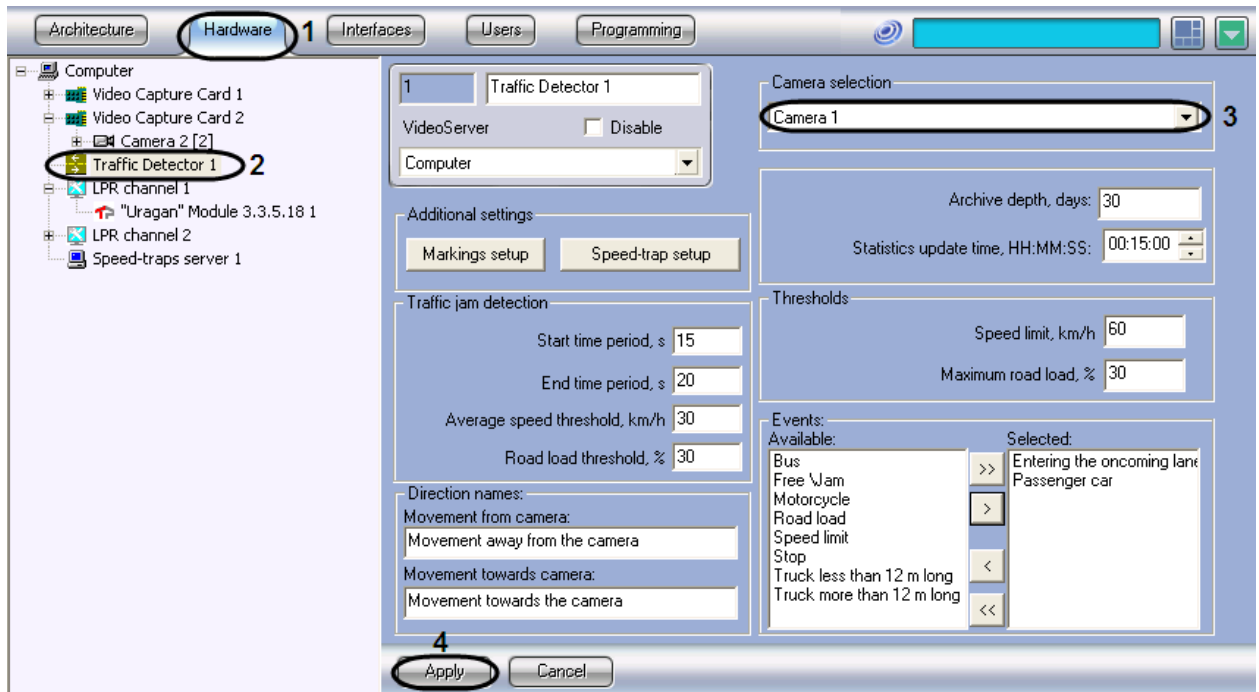

Fig. 7.4—1 Selecting the Camera object to be used with Traffic Detector
2. In the object tree on the left side of the Hardware tab, select the Traffic Detector object representing the Traffic Detector module to be set up. The settings panel of the selected object will open on the right side of the window (see Fig. 7.4—1).